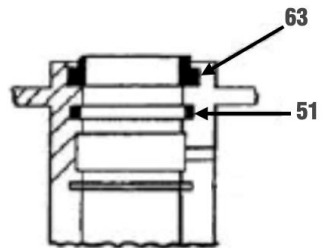

Fig. 7
8. Remove O-rings (#51) and dust seal (#63) (Fig. 7).